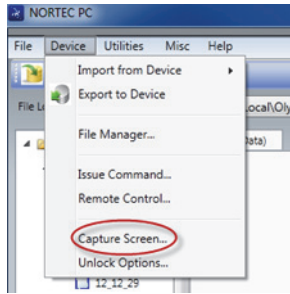

Figure 6-6 The NORTEC PC Device menu
- On the **Device** menu, select **Capture Screen** (see Figure 6-6 on page 307).